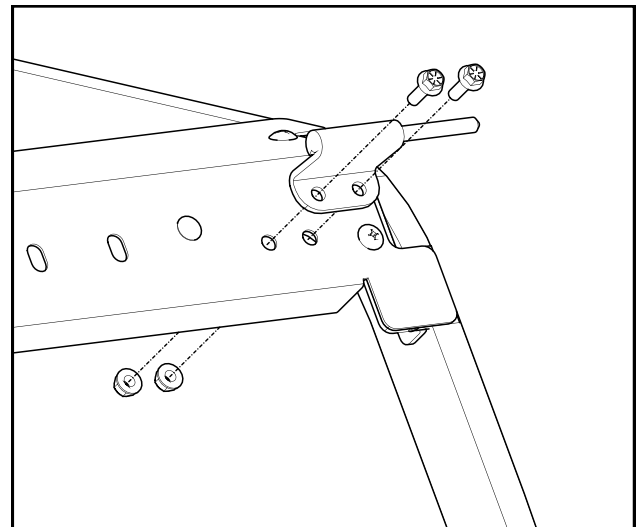

Fig. 7.2 (Windshield Support)
**7.2** Install left side roof hinge pin as shown in Fig 7.2. Snug up the bolts. *Note: The right side roof hinge pin will be installed during roof installation at step 14.*